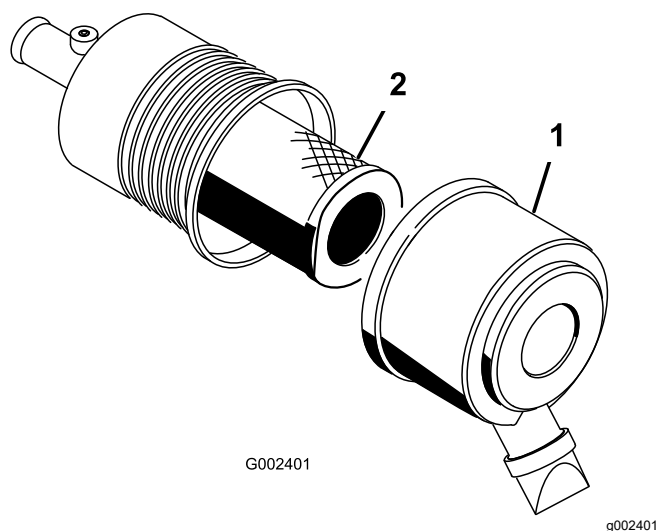

Figure 32
1. Release the latches on the air cleaner and pull the air-cleaner cover off the air-cleaner body (Figure 32).
3. Gently slide the filter out of the air-cleaner body (Figure 32).
5. Carefully slide the filter over the body tube (Figure 32).
6. Install the air-cleaner cover with the side facing up, and secure the latches (Figure 32).